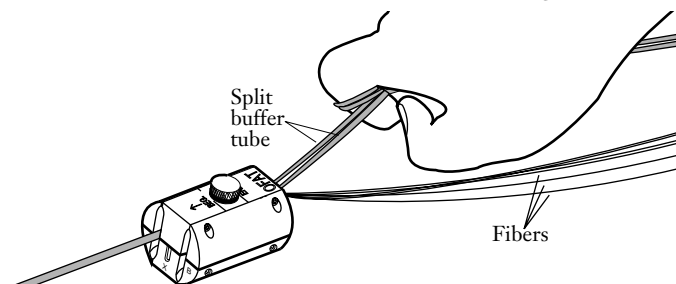

Figure 6
- b) Loop the split buffer tube halves around a finger to secure the uncut tube ahead of the tool (Figure 6).